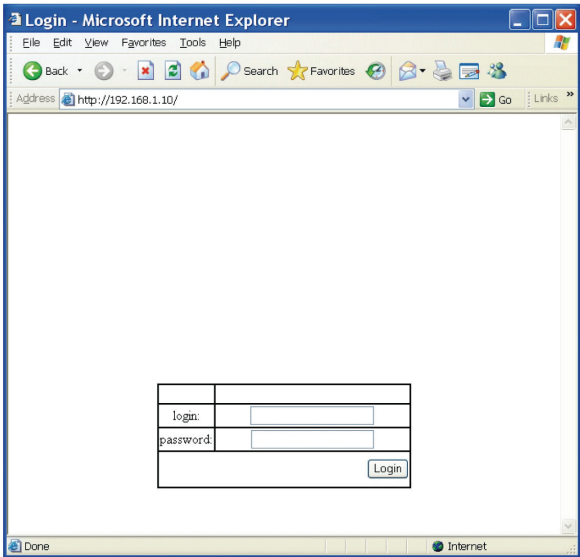

Figure QS-4. Login screen.
- 1. Log in to the Ethernet Switch: Specify the default IP address (192.168.1.10) of the Ethernet Extender Switch in the Web browser. A login will appear as shown in Figure QS-4.